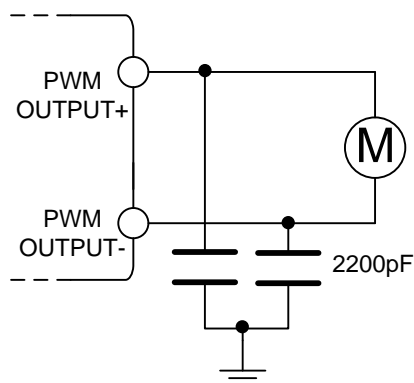

Figure 9. Snubber Circuit
- (4) The second way is to add a capacitor of around 2200 pF between each output and the ground. In this case, ensure that the GND wiring should not have any common impedance with other signals. (Figure 9.)